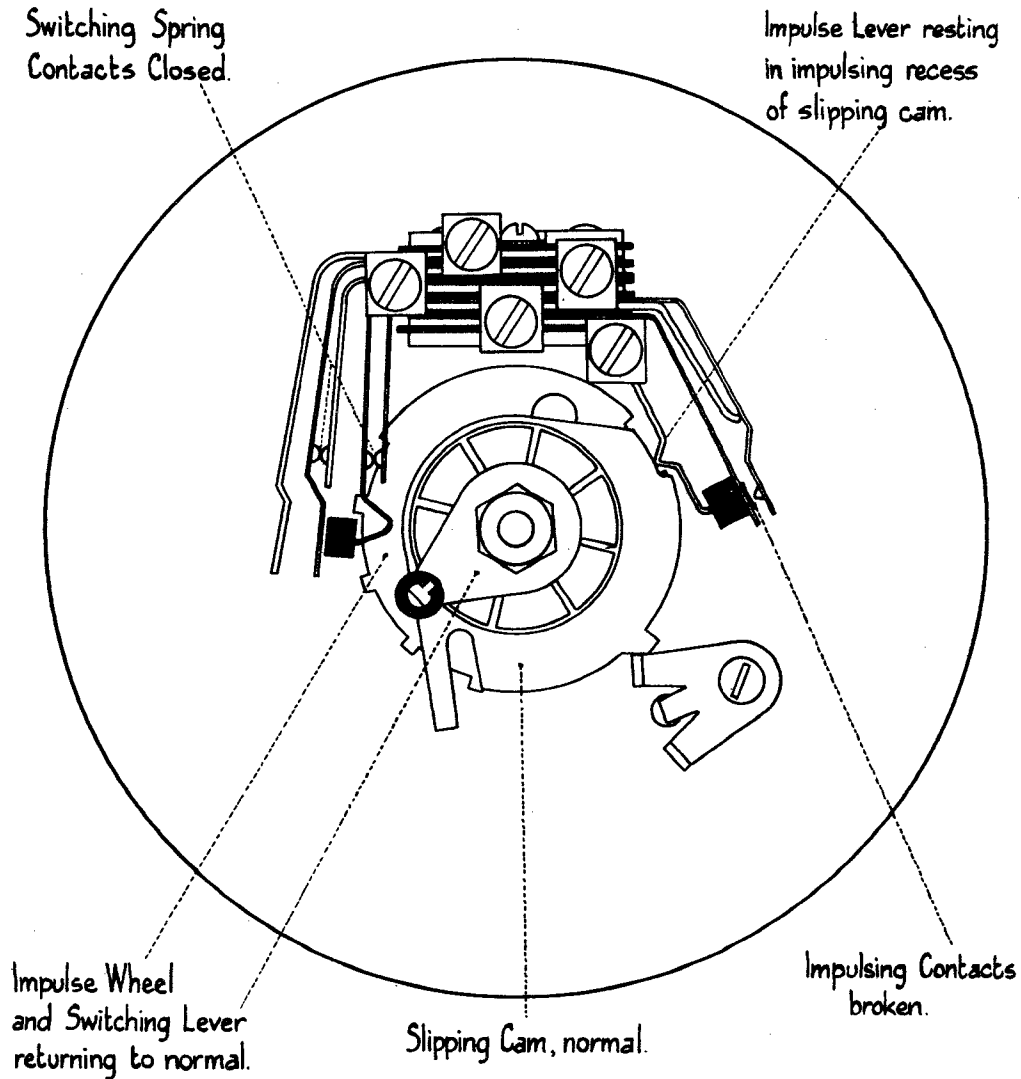

Fig. 25. One Impulse Sending.
2.14 Figure 25 shows one impulse sending. Note that the impulse lever is resting in the impulsing recess of the slipping cam and that the impulsing contacts are broken. The switching spring contacts will be broken by the switching lever after the impulsing contacts have closed.